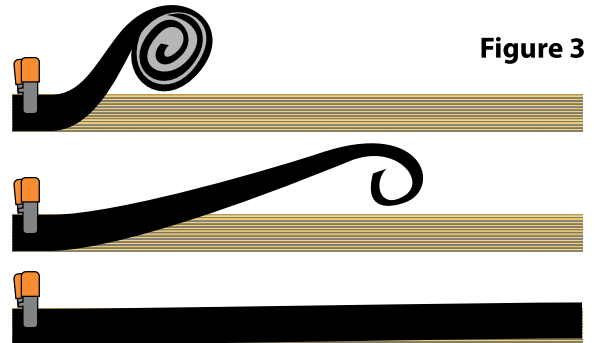

Figure 3
Step 6: Align one end of the rubber onto the Track and clamp it down in place. Pull the other end of the rubber up and over the track, slightly stretching it, and then lay it down onto the glue on the other end. See figure 3.